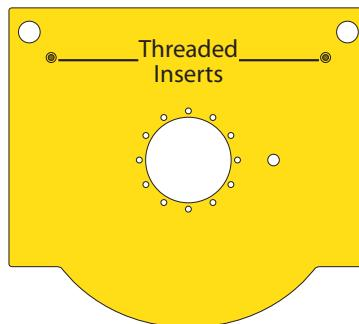

FIG. 26
- 26** Insert 2 Hex Head Bolts (G17) down through the threaded inserts on the Wall Bracket (F). Finger tighten only [FIG. 26].